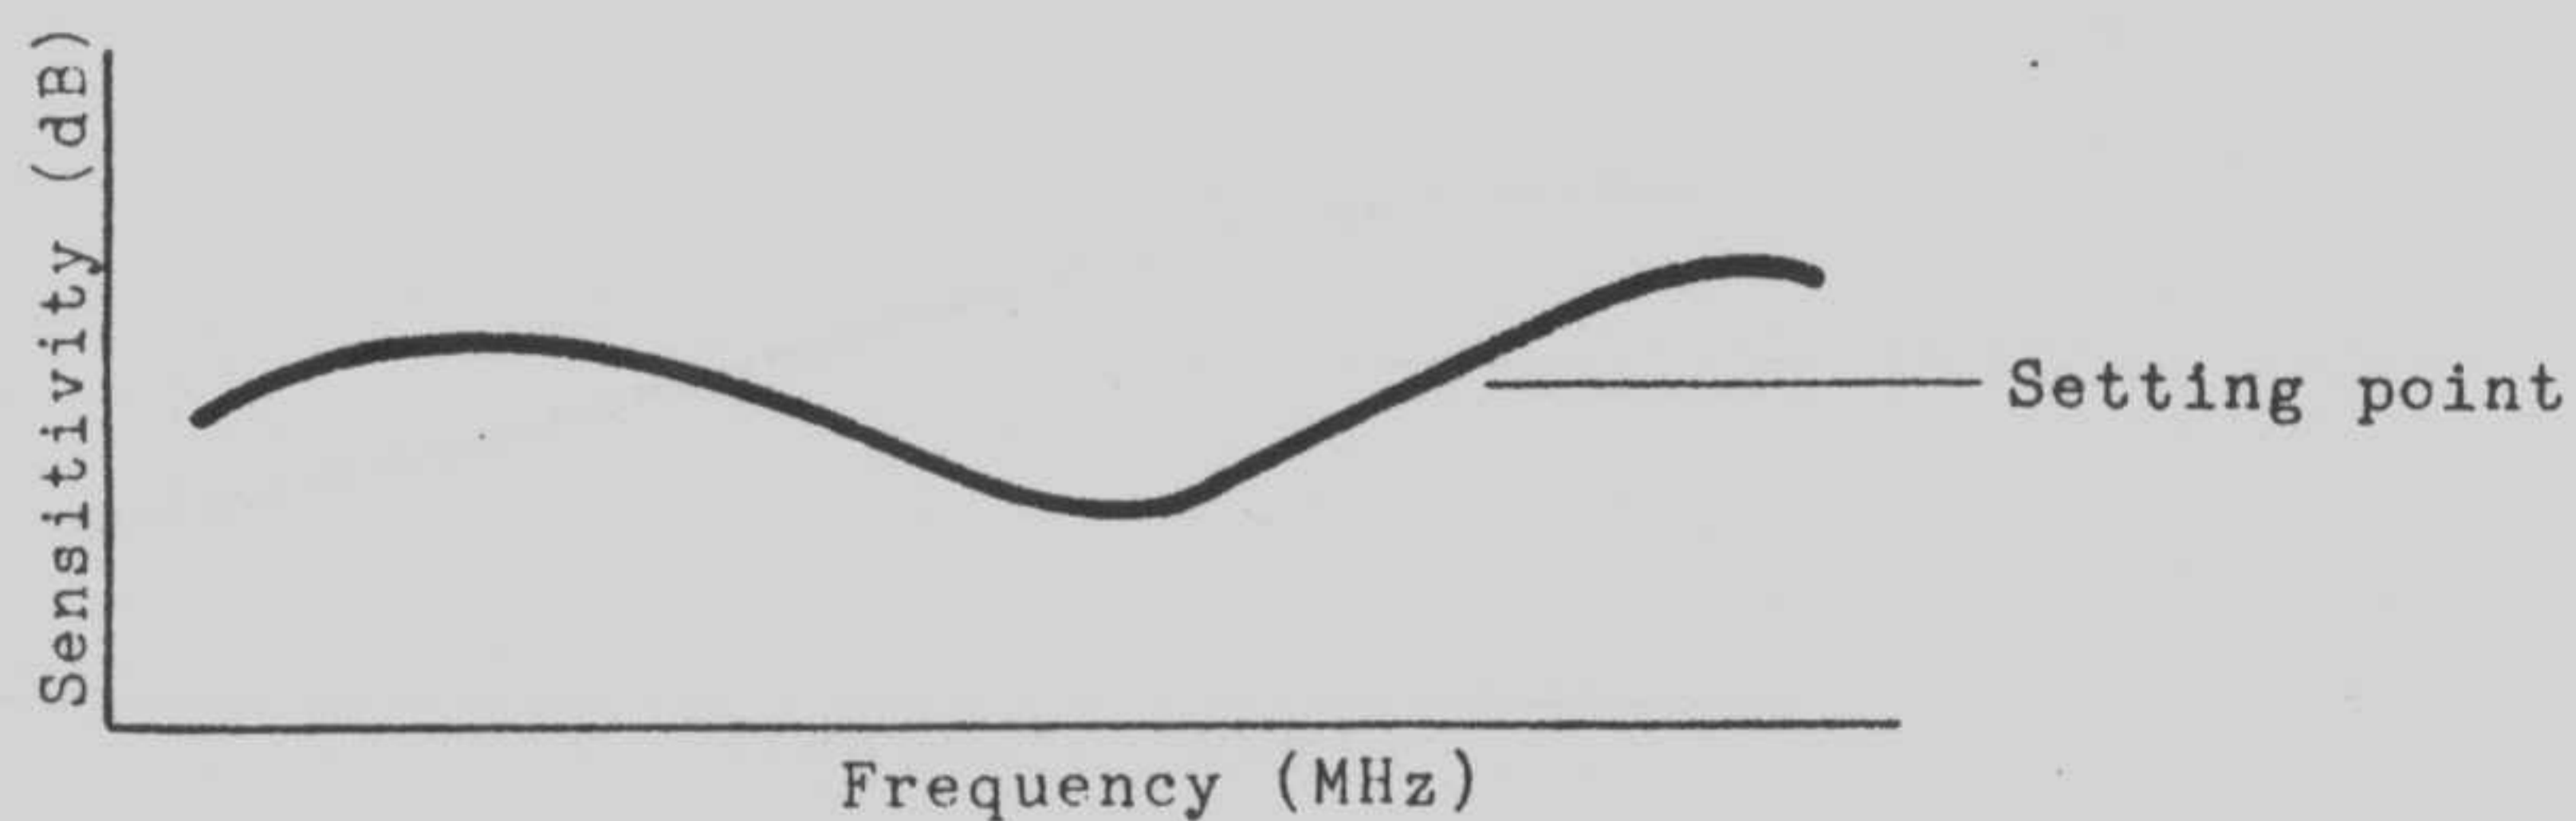

Figure-14
- Measure the sensitivity for several points of the UHF dial, then plot the frequency response to graph paper as shown in Figure-14.